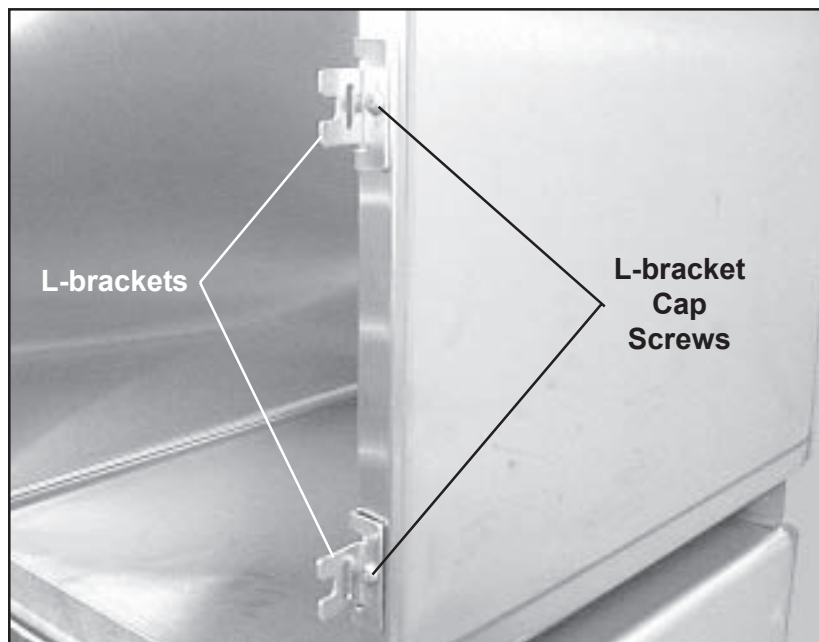

Figure 56. Removing the L-brackets
3. With a Phillips screwdriver, remove the cap screw that holds the L-bracket in place, and remove the L-bracket (Figure 56).